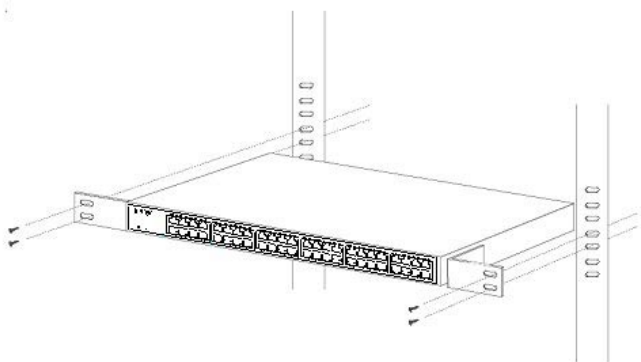

Figure 2-4 Mounting the FNSW-4800 in a Rack
Step 5: After the brackets are attached to the switch, use suitable screws to securely attach the brackets to the rack, as shown in Figure 2-4.